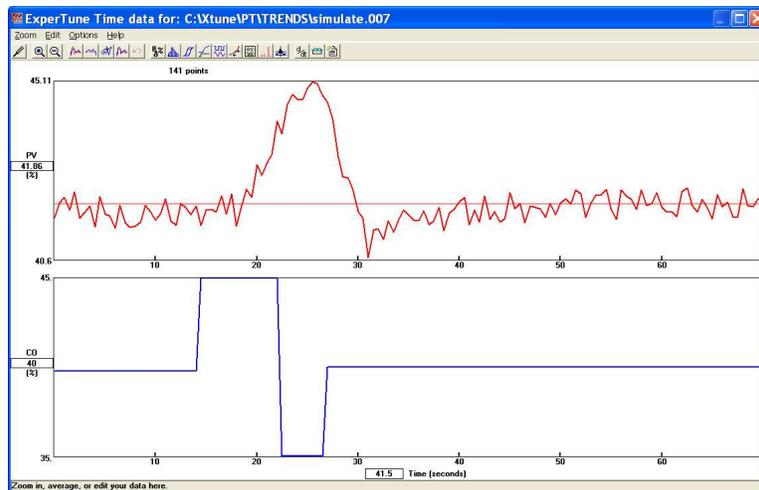

Figure 4. The Fast Plant Test can model the dynamics of slow loops
2. For slow loops, use pulse methods, like the “Fast Plant Test” shown in Figure 4.